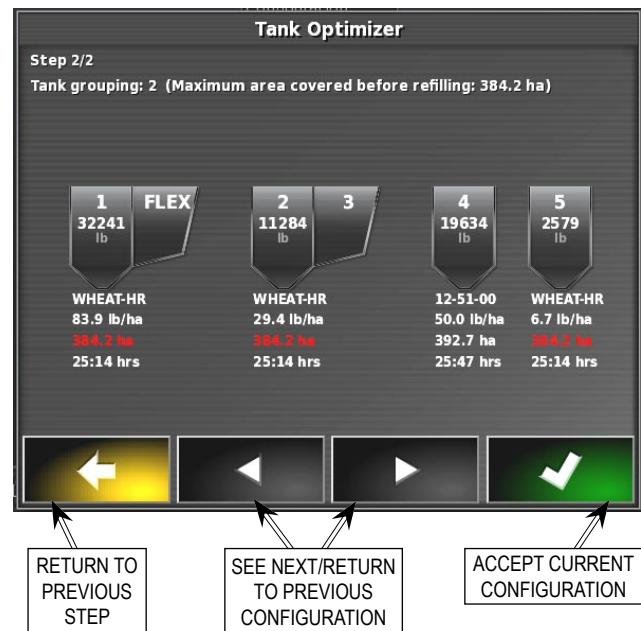

Figure 8.14 - Selecting Tank Configuration
7. Refer to *Figure 8.14*. Based on the provided information, Tank Optimizer will figure out several tank groupings, approximate time and maximum area covered before the refill for each tank, application rate for each tank.